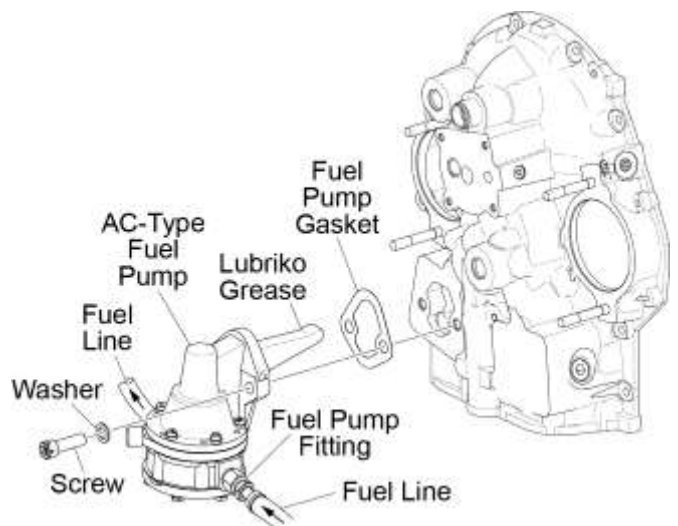

Figure 13
- (1) Put a fuel collection container under the fuel line connections at the AC-type fuel pump (Figure 13).
- (2) Apply a label and disconnect the fuel lines to the fuel pump.
- (3) Remove the two screws and washers from the fuel pump.
- (4) Remove the fuel pump and gasket from the accessory housing. Discard the gasket.
- (5) Remove the fuel collection container.
- (4) Install the fuel pump with a new gasket on the accessory housing as shown in Figure 13 with the two washers and two screws.
- (5) Torque the screws to 225 to 250 in.-lbs. (25 to 28 Nm).
- (6) Connect the fuel lines to the fuel pump. Torque the fuel fitting to 23 to 24 ft.-lb. (31 to 35 Nm). Make sure that the fuel lines are securely connected.
- (7) During the “Operational Ground Check” in Chapter 72-00 (which is to be done after all maintenance is complete), look for fuel leaks at the fuel lines and connections during engine operation. Identify and correct the cause of any fuel leak. There must not be any fuel leak when the engine is returned to service.